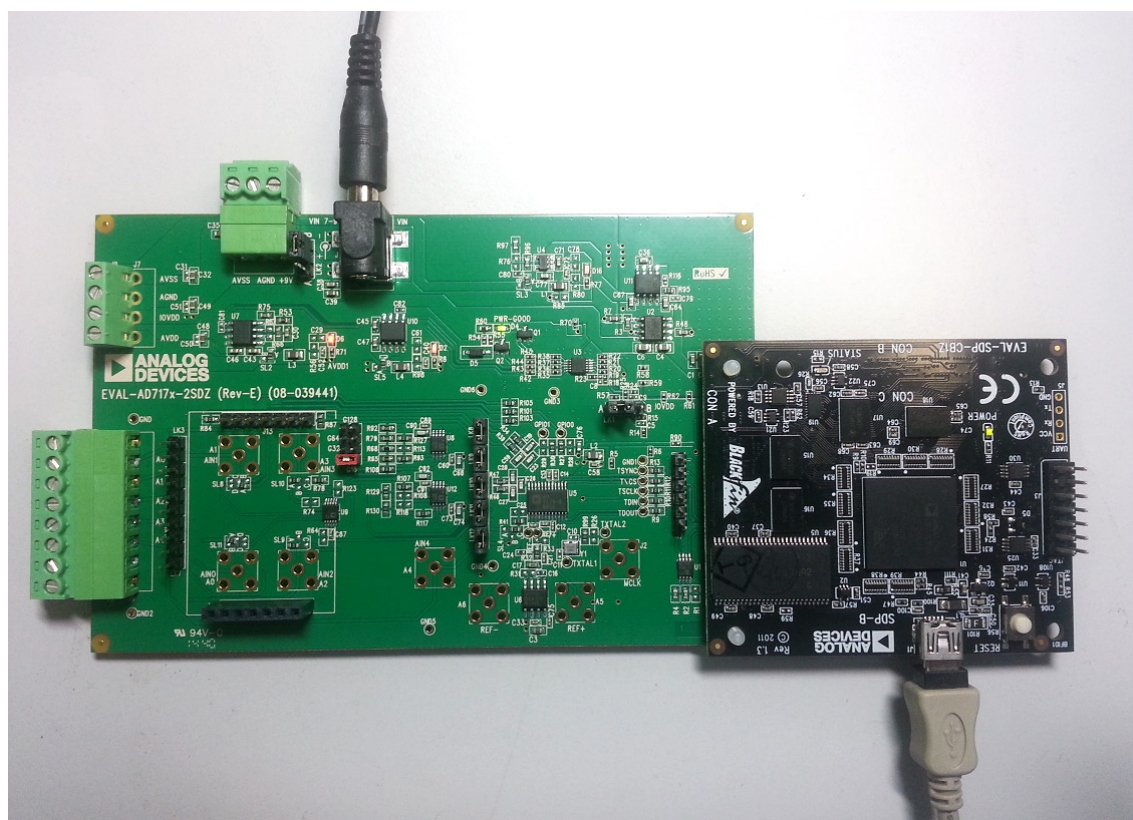

Figure 2. Hardware Configuration, Setting Up the EVAL-AD7175-2SDZ Evaluation Board
| Changes to Quick Start Noise Test Section and Figure 2.....                                                                                                                                                                                        | 3          |
2. Connect the **SDP-B** board to the evaluation board, as shown in Figure 2.
4. Connect the external 9 V power supply to Connector J5 of the evaluation board as shown in Figure 2. Set Link LK2 to Position B.